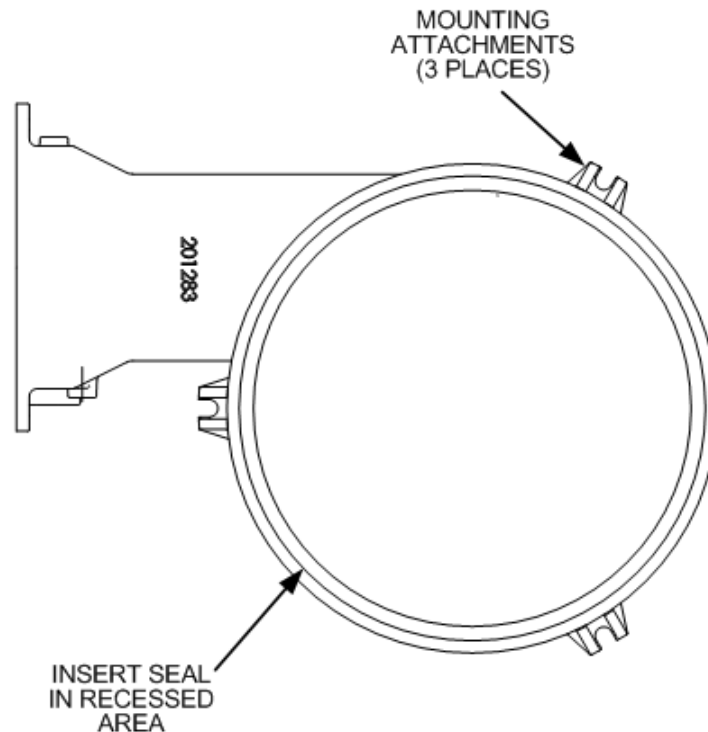
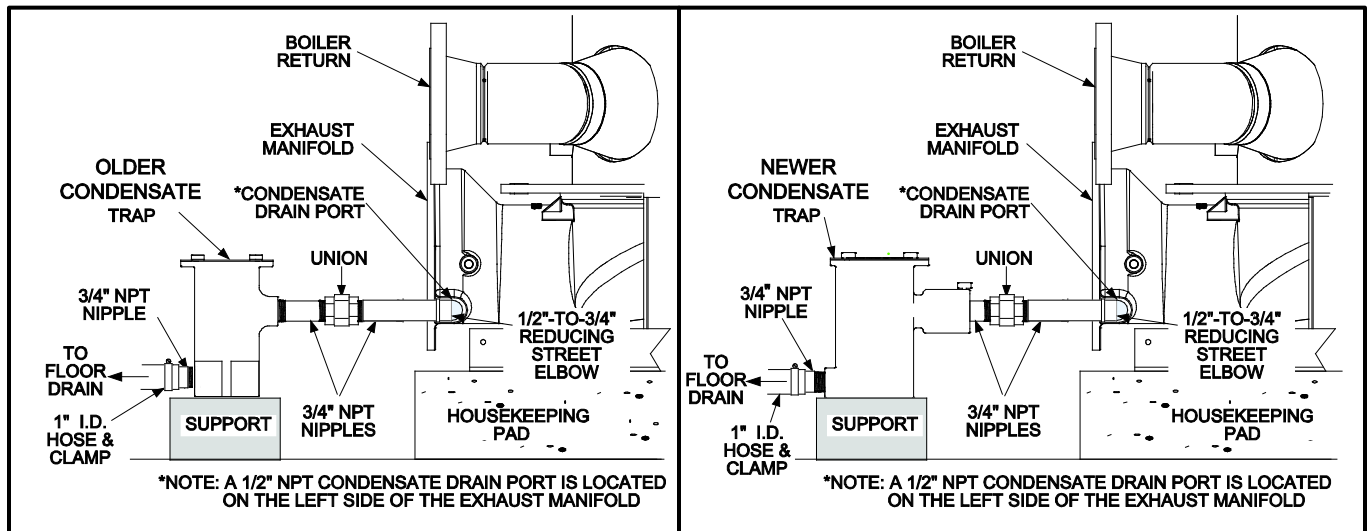

Figure 10: Benchmark 2.0LN Exhaust Manifold
Figure 12: Exhaust Manifold Condensate Drain Location. Old (left) and New (right) Style Trap – BMK2.0LN Partial Left Side View
3. Using a 3/4" socket wrench, remove the three bolts securing the Exhaust Manifold to the heat exchanger (Figure 10).
1. Replace the Exhaust Manifold Seal (P/N 123612) with the new seal provided in the 24-month maintenance kit. Install the adhesive-backed seal in the recess of the Exhaust Manifold flange (adhesive side down) as shown in Figure 10.
2. Align the Exhaust Manifold with the lower heat exchanger flange and secure it in place using the three (3) bolts removed in step 3 in the disassembly instructions. Alternately tighten the bolts to obtain a uniform seal.
5. After servicing the Condensate Trap components as described in section 6.2.3, reconnect the Condensate Trap to the 1/2" NPT condensate drain port on the Exhaust Manifold as shown in Figure 12.
1. Remove the connections on the inlet and outlet sides of the Condensate Trap shown in Figure 12.
7. Check the condensate drain port on the Exhaust Manifold (Figure 12) to ensure it is clear of blockage.